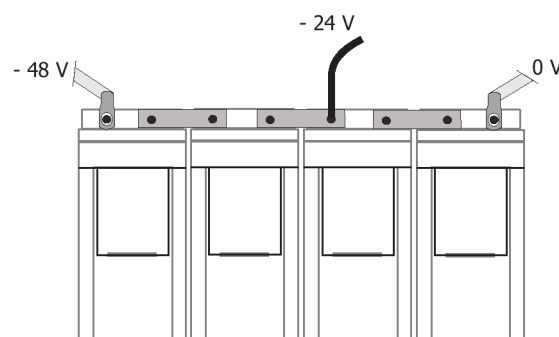

Figure 4-11 2-block Symmetry Measurement (for illustration only)
3. For 2-block battery symmetry measurement fix one wire of the symmetry cable to the cable lug in the mid-point of the battery string, see Figure 4-11.